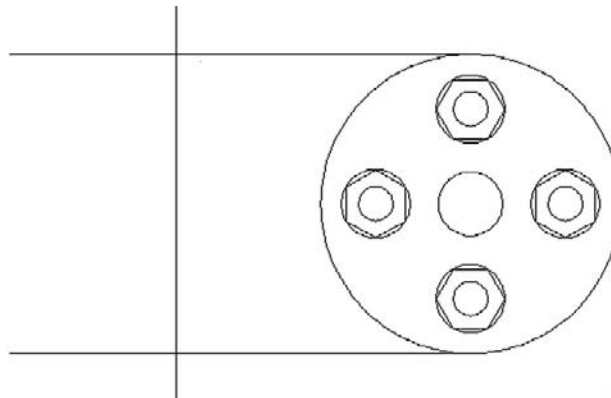

FIGURE 8.28
Step 7. You now have to project the main body of the part based on this top view. The best way is by drawing two horizontal guidelines, of any length, starting from the top and bottom quadrants of the big circle; then draw an arbitrary vertical line to mark the beginning of the part on the right, as shown in Figure 8.28.